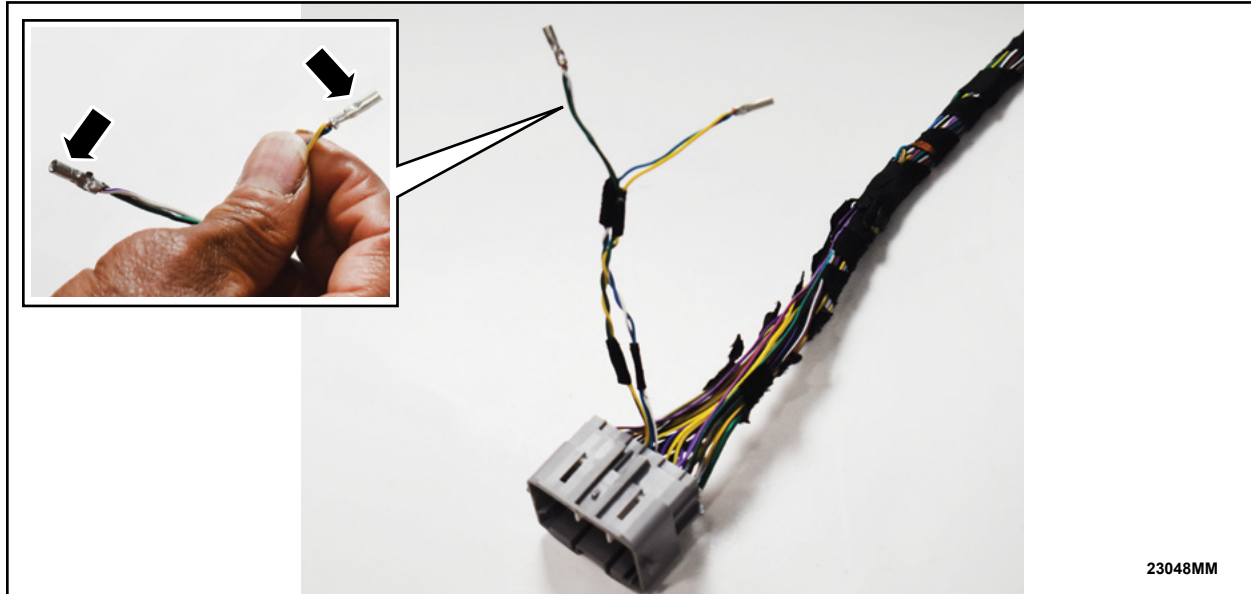

FIGURE 15
15. Twist together wires from cavities 25 and 26 and install a butt connector over the connection and crimp the wires. See Figures 15 and 16.
16. Twist together wires from cavities 37 and 38 and install a butt connector over the connection and crimp the wires. See Figures 15 and 16.